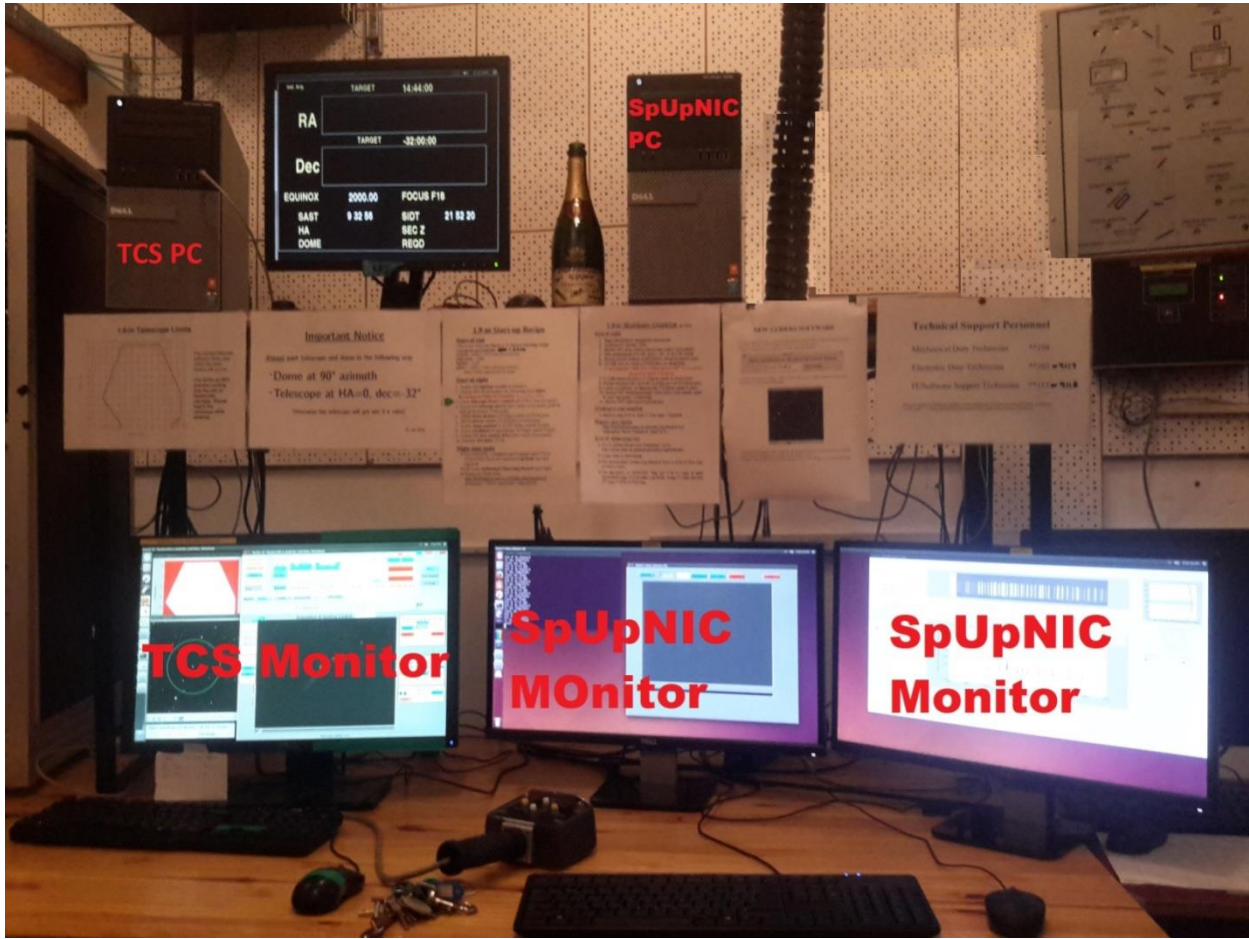
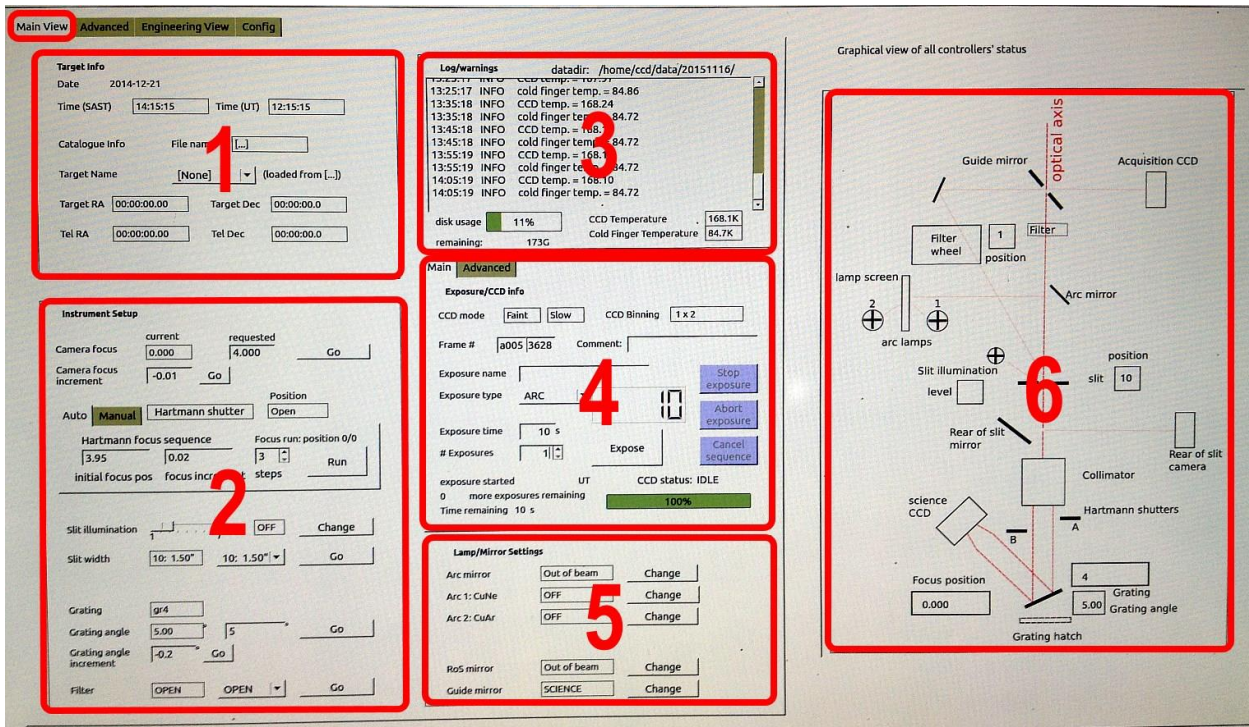

Fig. 2: Warm Room Workstation Layout
Fig. 3: MAIN VIEW tab of the SpUpNIC Instrument Control GUI
The following steps refer to Fig. 2 - computer systems and Fig. 3 - Instrument Control GUI, above. *At 21 Feb, TCS computer is on the shelf, on the left-hand side of the telescope coordinate display monitor.*
1. On the the SpUpNIC Instrument Control GUI, the grating angle is operated from the Main View tab, Panel 2 (Fig. 3). Set the grating angle to zero.
2. Shut down Instrument Control GUI using the Close button 'X' in the title bar (Fig. 3)